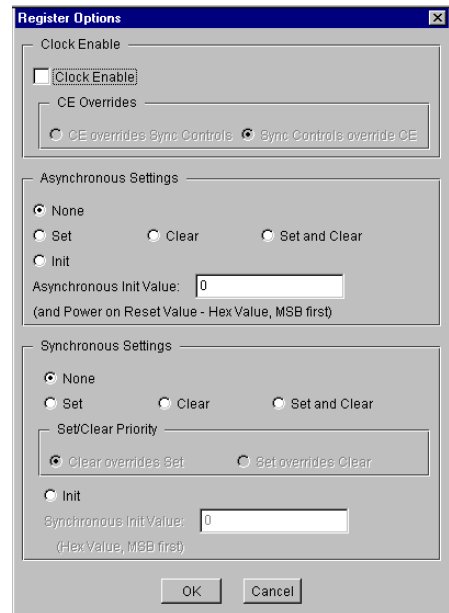

Figure 2: Twos Complementer Register Options Parameterization Screen
- **Register Options:** This button is only enabled when a registered output has been requested via the **Output Options**. Clicking on this button brings up the Register Options parameterization screen (see Figure 2).
The Register Options parameterization screen for this module is shown in Figure 2. The parameters are as follows: